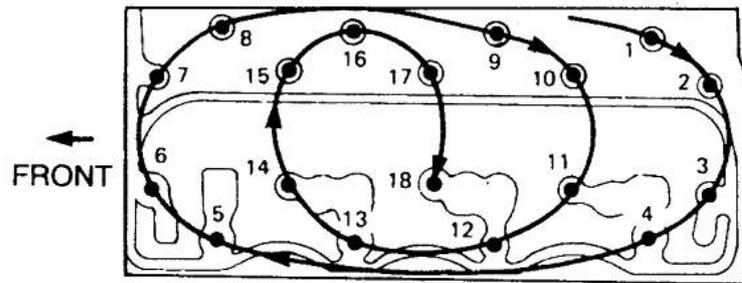

Figure 21 Removal of the Cylinder Head Bolts
- cc. Loosen the cylinder head bolts in sequence (Figure 21). Remove the bolts and remove the cylinder head complete with inlet manifold, exhaust manifold and thermostat housing.